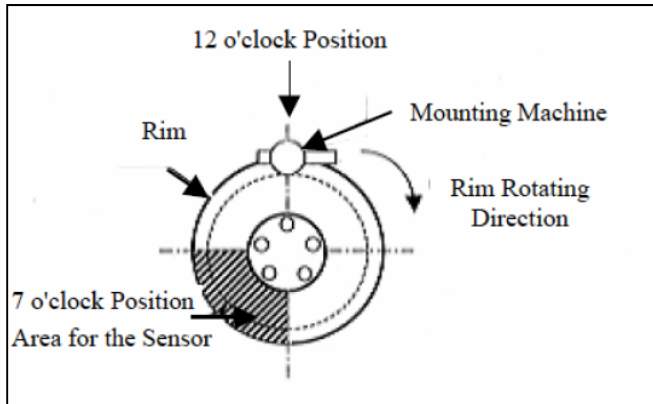

Figure 7a
- b. Position the wheel on the mounting machine with the sensor at ~ 7 o'clock position. See Figure 7a (Shaded Area). Mount/dismount head is considered as 12 o'clock Position.